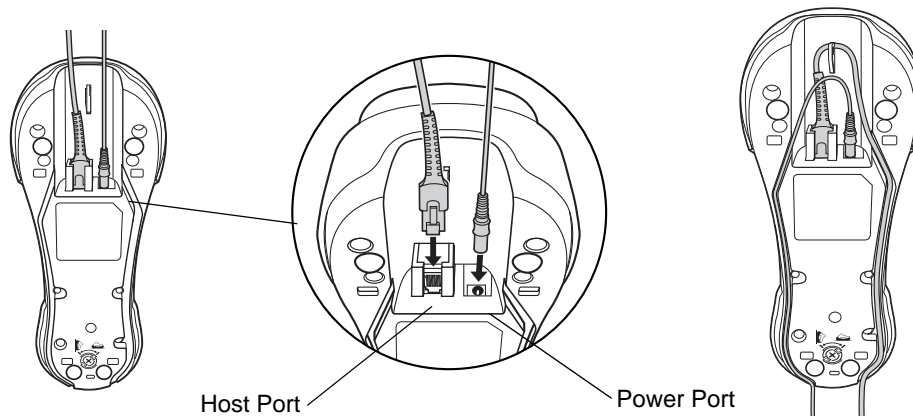

Figure 1-4 Connecting the Cables to the Cradle
1. Insert the interface cable into the cradle host port. See Figure 1-4.
1. Insert the interface cable from the host computer into the cradle's host port. See *Figure 1-4*.